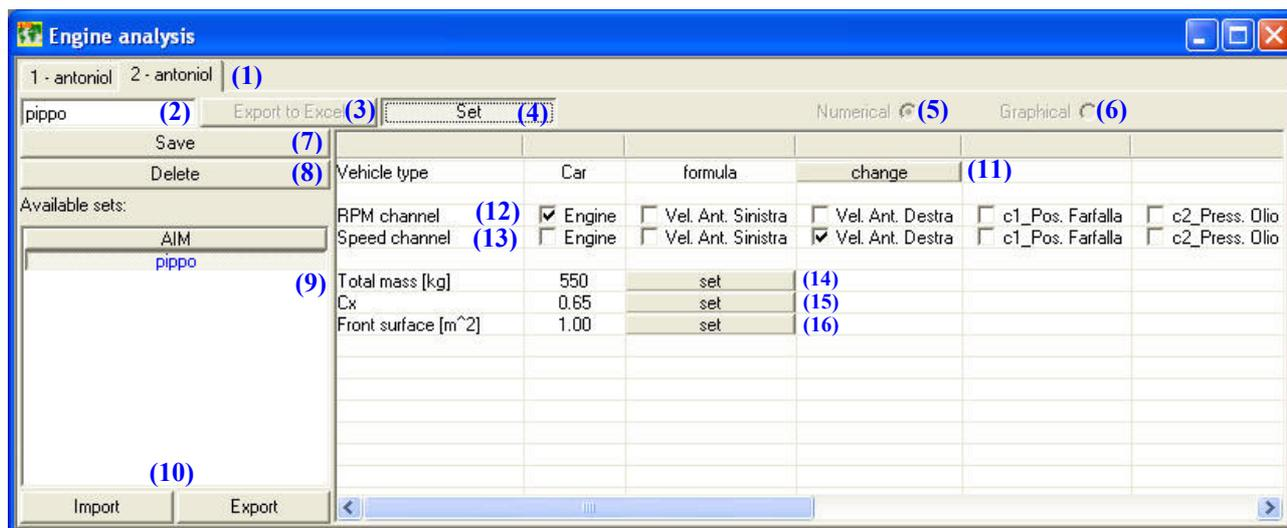
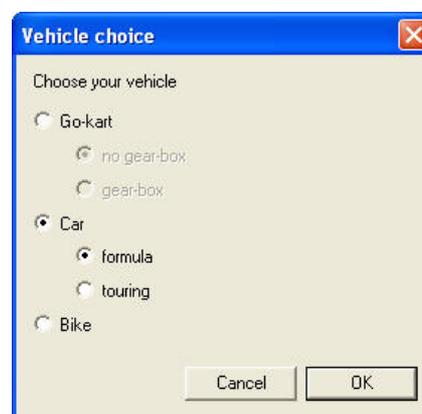

Fig. 6.12 – *Engine RPM analysis* window: settings
Fig. 6.13 – *Vehicle choice* window
The layout of the *Engine RPM analysis* view is shown in Figure 6.12.
Press button *Change*, labelled as (11) in Figure 6.12, or button *Vehicle*, inside the *Command* toolbar. Figure 6.13 will be prompted on your PC.
If you set a value greater than the maximum one (or lower than the minimum one), it will be red highlighted in Figure 6.12.
Press button Set corresponding to the transmission ratio (not shown in Figure 6.12). Figure 6.17 will be prompted on your PC.